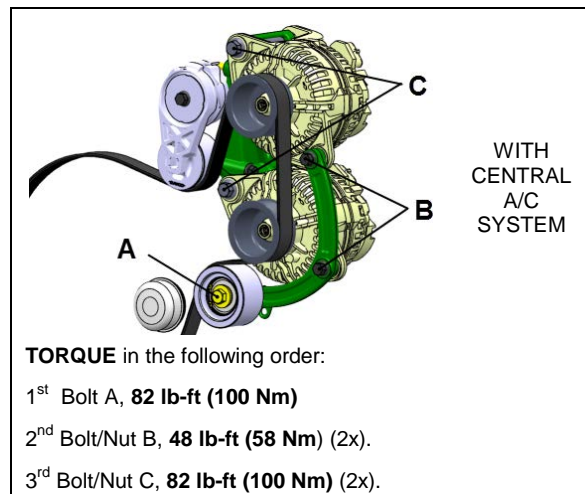
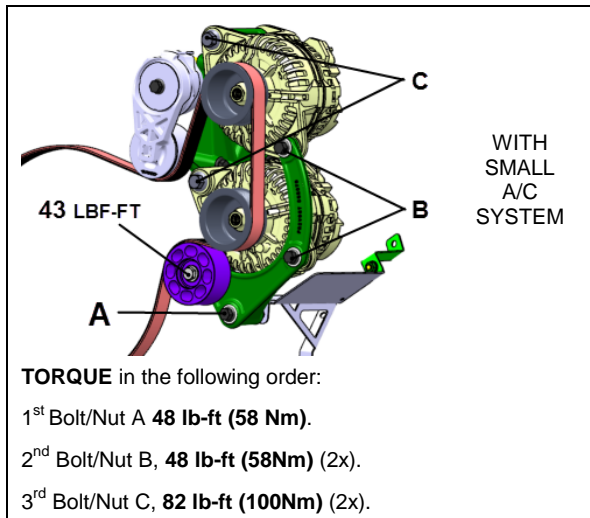

Figure 40: ALTERNATOR MOUNTING, TIGHTENING SEQUENCE – CENTRAL A/C SYSTEM
FIGURE 41: ALTERNATOR MOUNTING, TIGHTENING SEQUENCE – SMALL A/C SYSTEM
6. In order to assure installation, it is important to tighten the alternator mounting bolts in proper sequence. (Figure 40 & Figure 41).